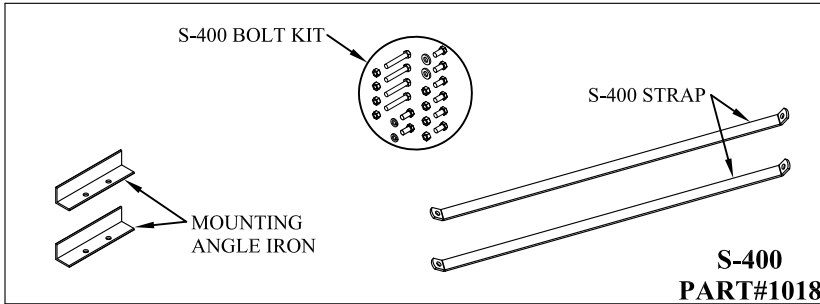

Figure 2: Part Identification
- 2. Remove** the S-400 boxed mounting hardware if it is banded to the liftgate (Figure 2).
- 3. Verify** mounting bracket kit (Figure 2 and Table 1).